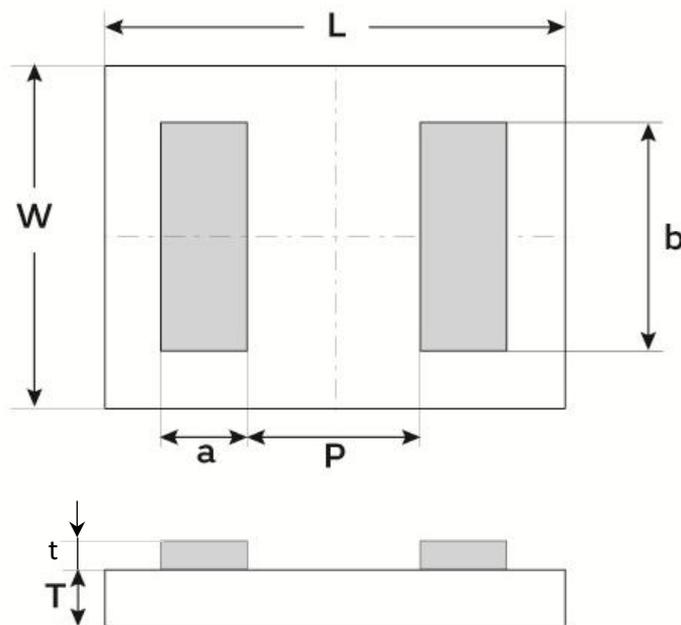

Figure 9 - Package outline drawing
(1) Other film frame carrier are possible on request
(2) SAC = ENIG (0.1µm Au / 5µm Ni) + SAC305 type 6 or NiAu = ENIG (0.1µm Au / 5µm Ni)
(3) missing capacitors can reach 0.5%
(4) refer to Figure 9